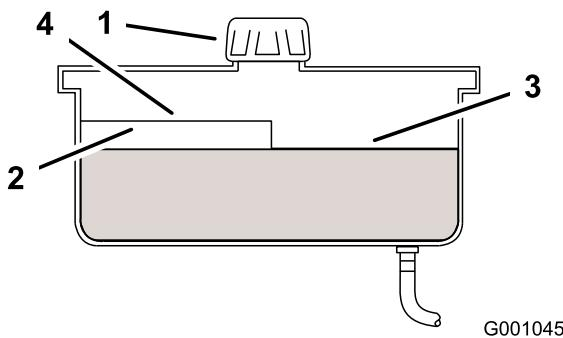

Figure 55
2. Clean the area around filler neck of hydraulic tank (Figure 55).
3. Remove the cap from the filler neck. Look inside to check if there is fluid in the reservoir (Figure 55).
- Note:** The fluid level should be to the top of the hot level of the baffle, when the fluid is hot (Figure 55).